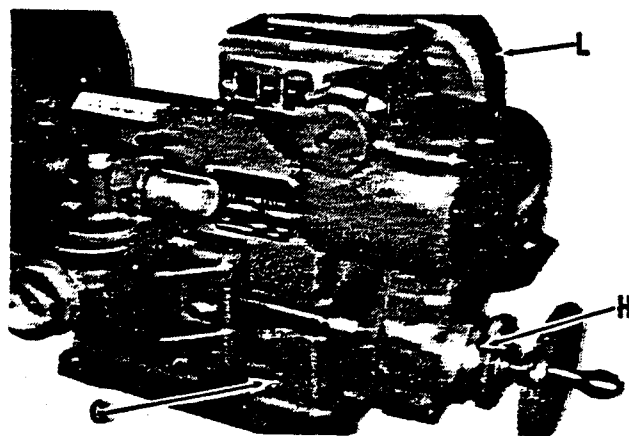

Figure 8
- Run the carriage, by hand, the length of the drum surface to be cut and be sure there is enough clearance. An emergency lathe shut-off switch, G. Fig. 8, is located on the lower right hand side of the lathe. When the carriage feed is set to automatic and the lathe is left unattended, the carriage will automatically turn off the lathe when it reaches the end of its travel.
To make the feed selection, pull out on the knurled ring, H Fig. 8, and turn it until the desired speed aligns with the punch mark located on the casting face. Release the ring. The carriage will begin to feed automatically. If it does not, the lathe shut-off switch, G Fig. 8; has been tripped and must be reset before the carriage will feed. The feeding speed may be changed while the lathe is operating.
- Set the spindle speed to the desired R.P.M. To change the belt from one set of pulleys to another, pull the belt guard down, L Fig. 8, and lift up on the motor.